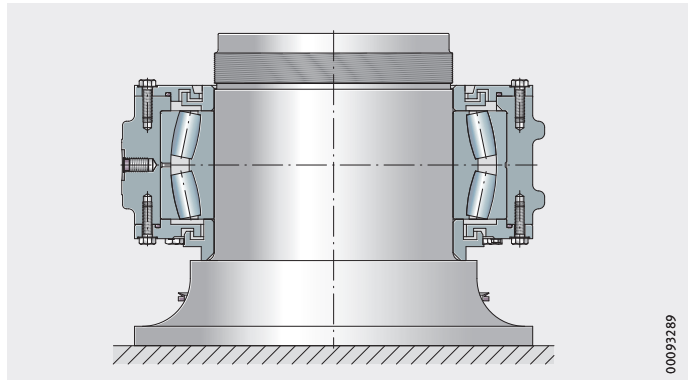

Figure 14
- ▶ Grease the O ring for the gearbox side and insert in the slot on the housing cover for the gearbox side, *Figure 14*.
- ▶ Slide the housing cover for the gearbox side (with the inserted O ring) onto the shaft, *Figure 14*.